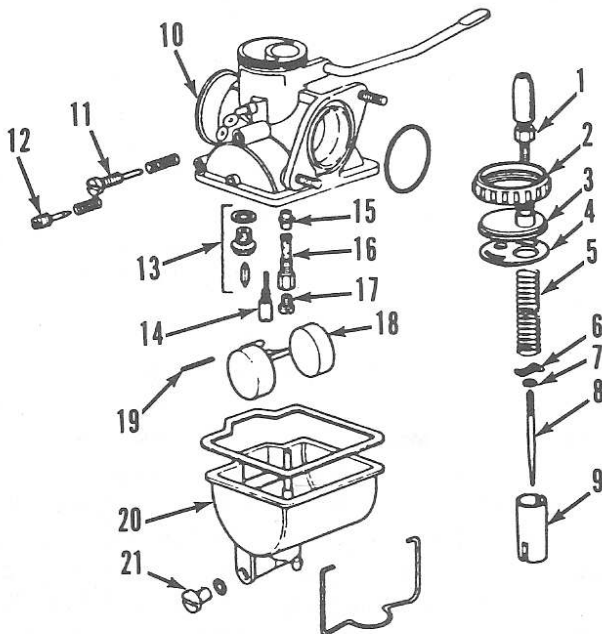

Fig. K1-4—Exploded view of carburetor typical of the type used on all models.
CARBURETOR. The Keihin PC18 sliding valve type carburetor shown in Fig. K1-4 is used. Refer to CONDENSED SERVICE DATA for carburetor specifications.
When servicing the carburetor, note the following: Jet needle clip (7—Fig. K1-4) should be located in fourth groove from top of jet needle (8) on KLT models and third groove from top on KLF models. Float height (A—Fig. K1-6) should be 18-22 mm (0.709-0.866 in.) as measured from gasket surface of carburetor body to lowest edge of float. Hold carburetor at an angle that will allow the float assembly to close the inlet valve but not compress the spring in the valve. Adjust the float level by bending tang (B) on float arm.